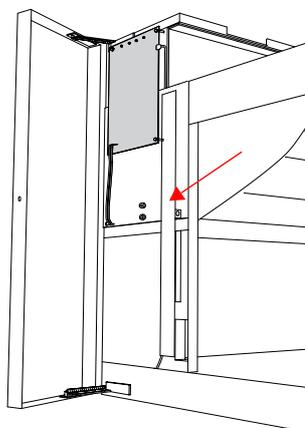

Figure 6-12 Tubing cover
- 3 which is located in the left service compartment – to access the X-motor fixing screws 5-10 (see Figure 6-12).
- 3 Remove tubing cover – which is located in the left service compartment – to access the X-motor fixing screws (5-10) (see Figure 6-12, 'Tubing cover').
- 4 Install the tubing cover in the left service compartment (see Figure 6-12, 'Tubing cover').
- 5 Install the tubing cover in the left service compartment (see Figure 6-12, 'Tubing cover').